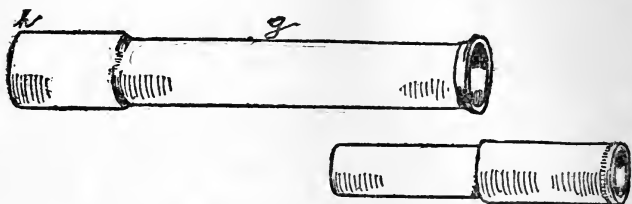

Fig. 14.—Plain Capped and Weltd Ferrules.
3. Capped and welted ferrules are of the same form as the two mentioned above, but the caps are plain, as shown in Fig 14.
In all carefully made German silver ferrules the outside diameter of the female ferrule at *g* (Fig. 14) is identical with the inside diameter of the cap at *h*. This is a help to the